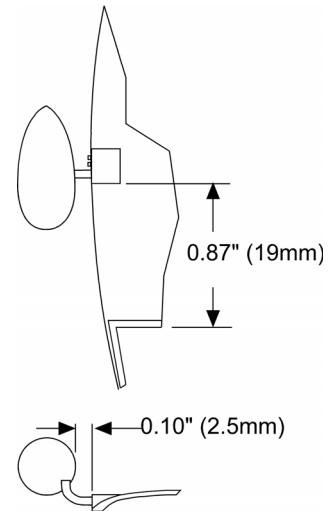

Figure 6
5. Glue the hoist mounting fairing (part 7) where indicated in Figure 6 at right. Drill a 1/16" (1.5mm) hole horizontally at the indicated point to serve as the mounting point for the hoist pylon. The two small protrusion aft of this point represent plugs for the hoist control wiring, which can be done later. **Note: Further installation of the hoist should probably wait until after painting is completed.** Bend a piece of wire to match the hoist arm in Figure 6. Drill a horizontal hole in the fairing. Glue in the arm so the free end sticks straight up.